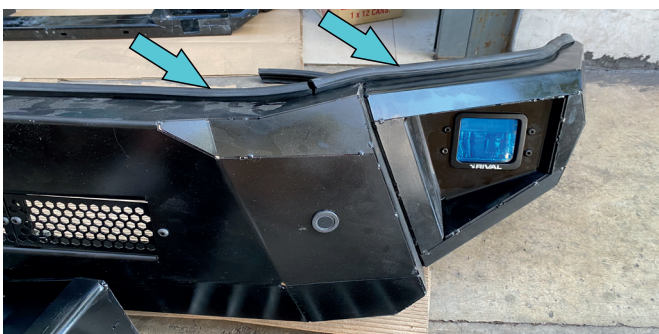

Fig.52
52. Install weatherstrip (item 30) on bumper body, as shown in fig.52, 53.